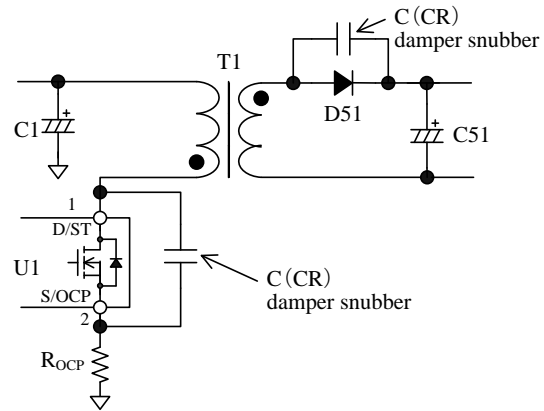

Figure 9-24 Damper snubber circuit
In addition, if a C (RC) damper snubber of Figure 9-24 is used, reduce the capacitor value of damper snubber. If the turn-on timing isn't fitted to a V_{DS} bottom point, adjustments are required (refer to Section 9.7.2).